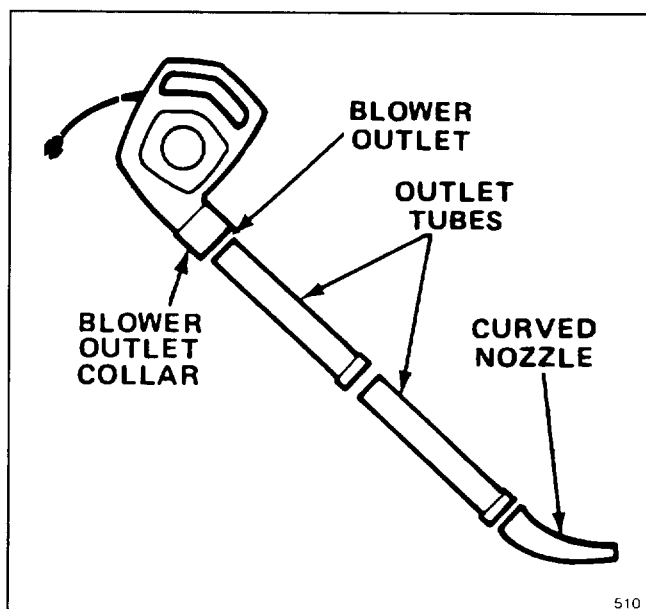

Figure 1
1. Thread outlet tubes together with a twisting motion (Fig. 1).
2. Thread assembled tubes into blower outlet (Fig. 1).
1. If unit was previously used as a blower, remove blower tubes (Fig. 1). Do not attempt to remove outlet collar.